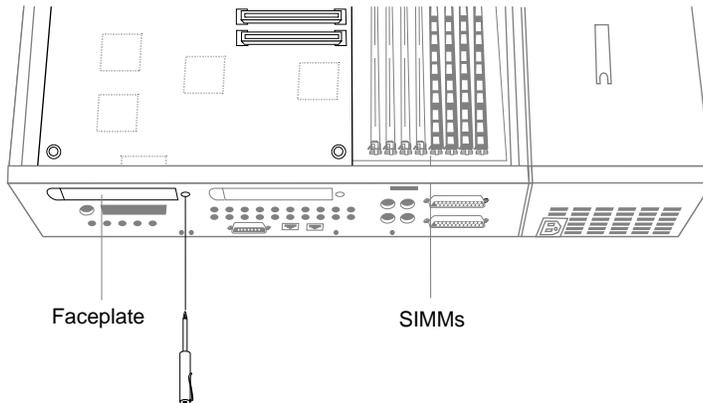

Figure 2-2 Removing the Faceplate From the GIO Option Port
3. Check if there is a faceplate covering the GIO option port farthest from the SIMMs, as shown in Figure 2-2.